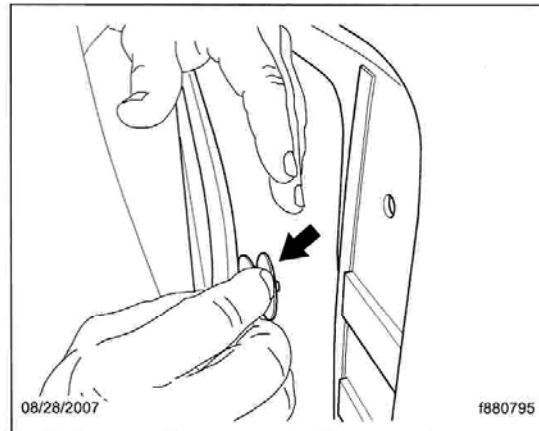

Fig. 8, Positioning Flatwashers between Grille and Hood Skin
- 13.2 Position two flatwashers 23-10900-225 between the grille and hood skin on all four corners of the grille. See Fig. 8.